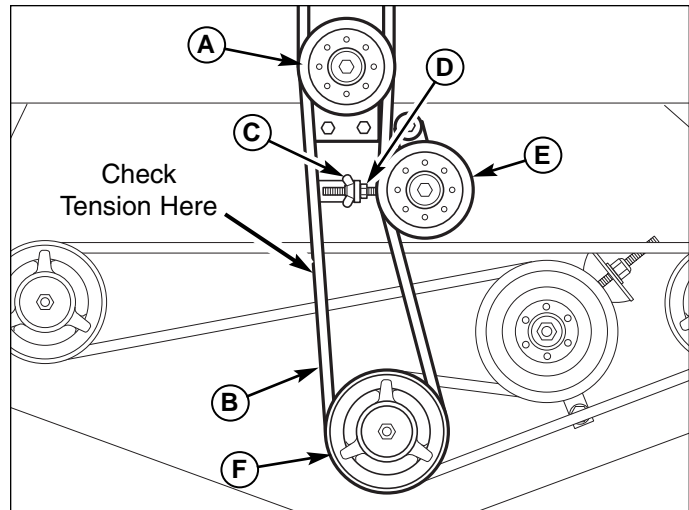

Figure 24. PTO Clutch to Deck Belt
4. Loosen the wing nut (C, Figure 24) to release the belt tension on the deck drive belt (B).
7. Install the drive belt on the PTO pulley, the idler pulley and center spindle pulley. Tighten the wing nut (C, Figure 24) until a 10 lb. (44.5 newton) force is required to deflect the belt 1/2" (1,27cm) between the idler pulley and center spindle pulley. Jam hex nut (D) against anchor. See Figure 23.